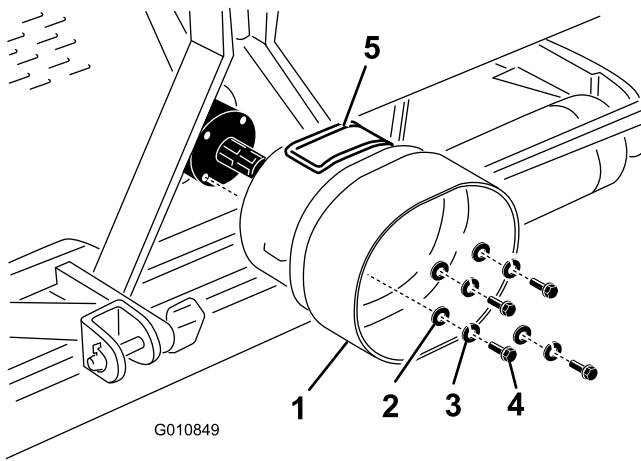

Figure 16
1. Remove the 4 bolts, lock washers and flat washers secured to the rear of the aerator gear box (Figure 16).
2. Mount the PTO shield to the aerator gear box with the fasteners previously removed (Figure 16). When mounting the PTO shield, make sure the access panel (Figure 16) is positioned to the top or side depending on the aerator frame configuration.
Note: The access panel (Figure 16) can be opened to ease the removal and installation of the PTO shaft mounting fasteners.